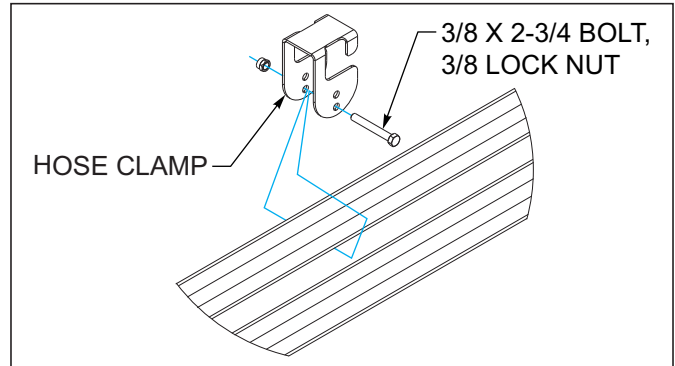

Figure 3-9: Trim Installation
2. Attach hose clamps to the hitch using 3/8 x bolts and lock nuts *See Figure 3-9.*